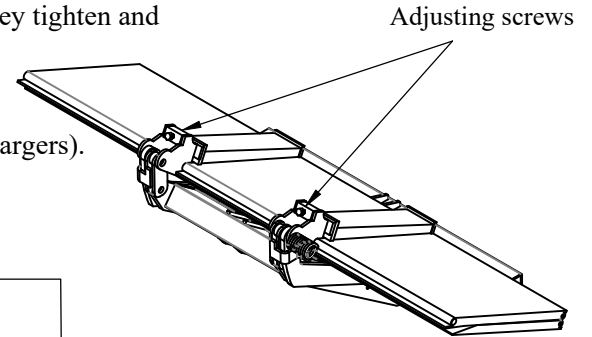

Figure 17: Adjusting Screws Location.
2. **Tighten** the adjusting screws equally, leaving a couple of turns before they tighten and bottom out (Figure 17).